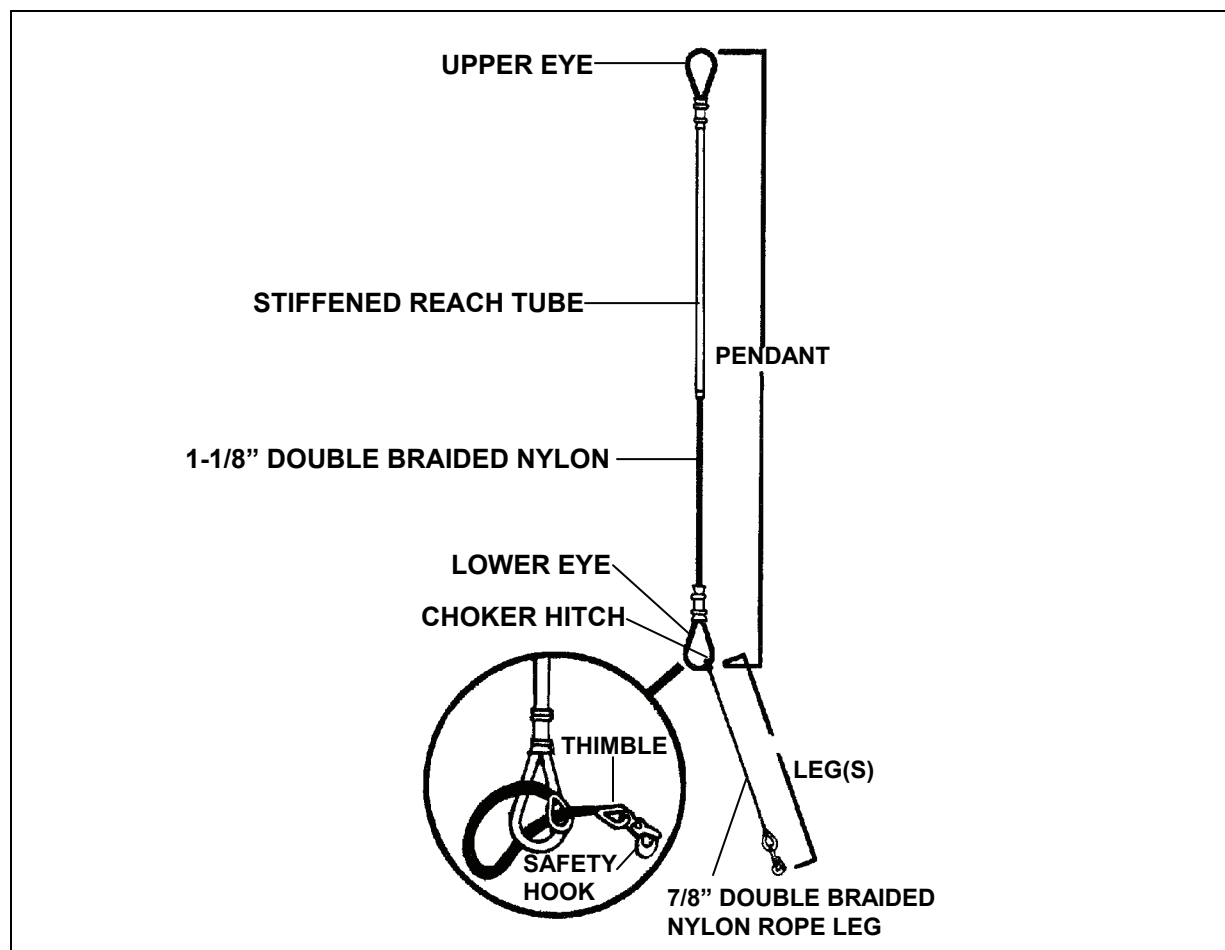

Figure 9-5. Mk 105 Hoisting Sling (Multi-Leg Pole)
- Hoisting Sling Mk105.** This sling, called the multileg-pole pendant or reach pendant, is approved for all types of VERTREP loads up to 6,000 pounds (Figure 9-5). The Mk105 consists of two parts: the pendant section and the leg assemblies.
- The legs are made of color-coded, 15/16-inch diameter, double-braided nylon rope with an open eye splice at one end and a positive-closing, self-locking cargo hook at the other end. The regular leg (orange) is 85 inches long and the long leg (green) is 116 inches long. As many as six legs may be attached to the pendant's lower eye by means of choker hitches (Figure 9-5 inset). The number of legs used is determined by the number of attachment points on the load. Four regular legs are provided with each pendant at the time of issue. The safe working load for an Mk105 pendant with a single leg is 4,000 pounds. The maximum capacity of the Mk105 pendant is 6,000 pounds when two or more legs are attached. The nylon rope also acts to absorb the shock of the load during pickup by the helicopter. As the helicopter lifts up, the weight of the load is transferred from the flight deck to the pendant. This action stretches the pendant and the result is a smooth load pickup with minimum shock and stress to the aircraft and load.